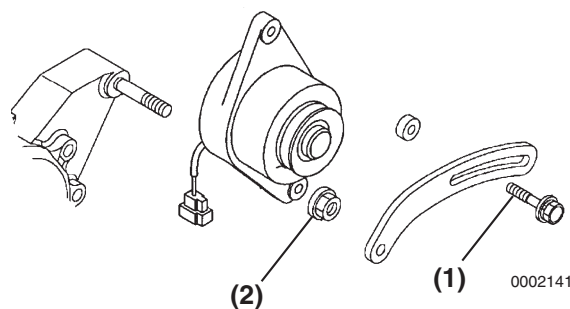
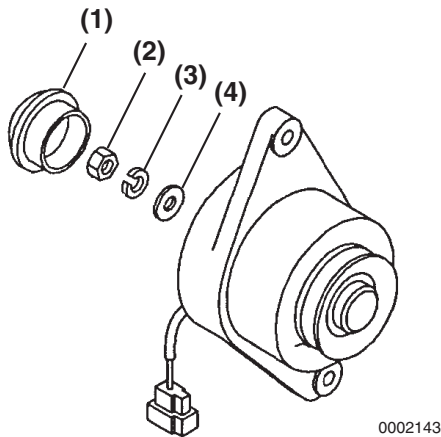

Figure 11-23
Figure 11-24
3. Remove the V-belt adjuster from the dynamo bolt (**Figure 11-23, (1)**).
4. Remove the nut (**Figure 11-23, (2)**) from the gear case stud. Remove the dynamo.
1. Remove the rear cover (**Figure 11-24, (1)**).
2. Remove the nut (**Figure 11-23, (2)**), lock washer (**Figure 11-24, (3)**), and flat washer (**Figure 11-24, (4)**).